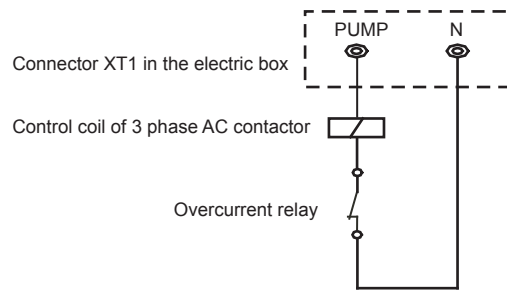

Fig. 8-22-4
- Step 12. MC-SU90-RN1L Connection of control wires of pump: the control wires of AC contactor of pump must pass the connection terminals PUMP and N of the connector XT1 in the electric box of the unit, as shown in Fig. 8-22-4.